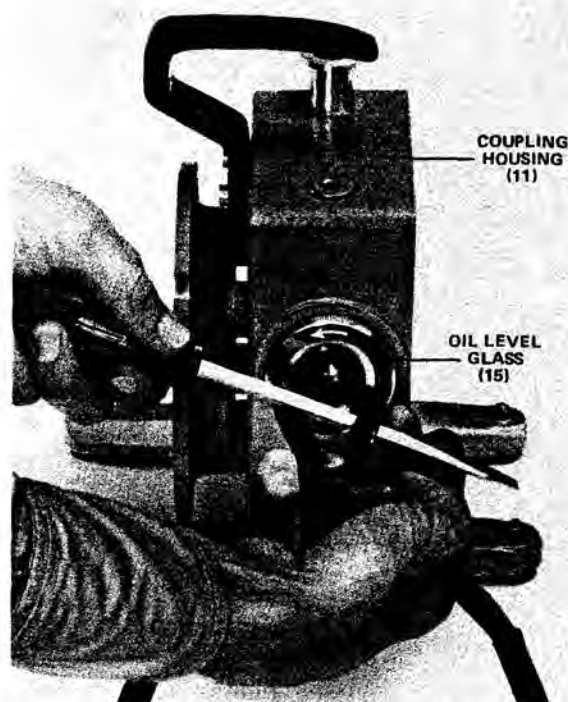

Figure 5-16. Removing the Oil Level Glass (15) From the Coupling Housing (D2A Pump Model Shown)
**Method (2)** – Place the nose ends of a large pair of snap ring pliers into the two holes in the assembly (15); insert a screwdriver or small bar between the nose ends of the snap ring pliers; use the screwdriver or bar to force the pliers and the assembly to turn counterclockwise; unscrew the assembly from the coupling housing (see Figure 5-16).